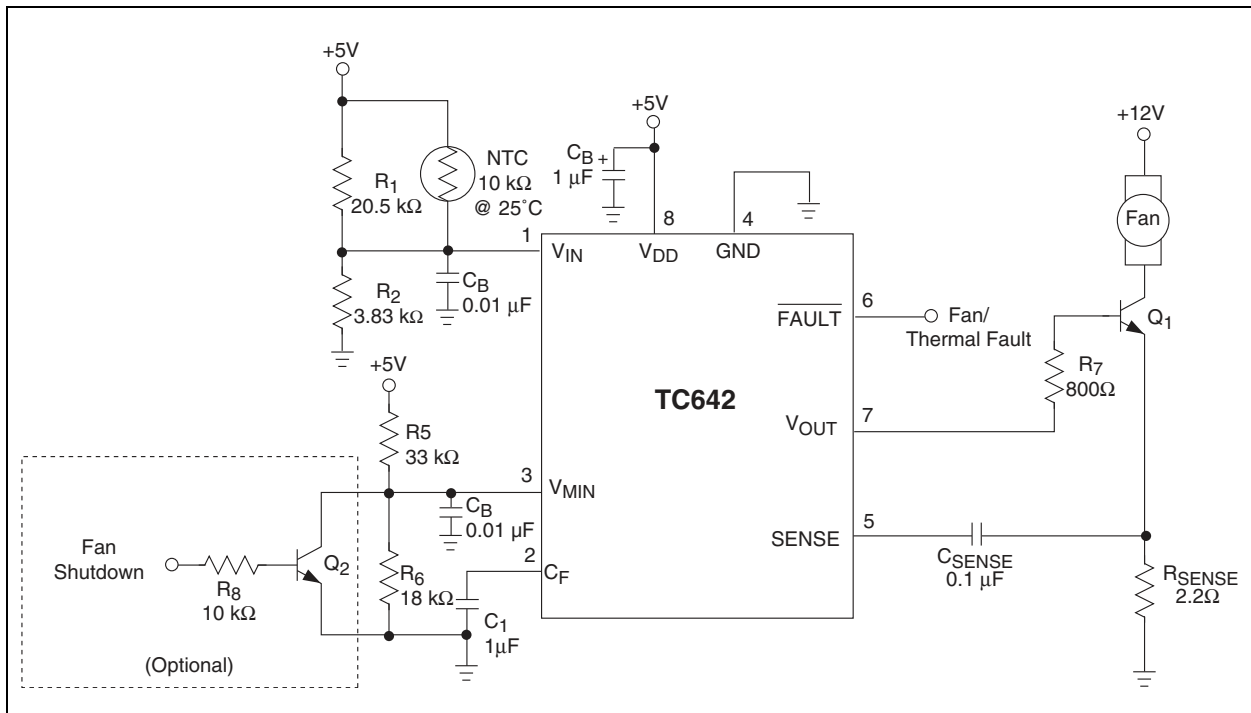

FIGURE 5-9: Design Example.
Step 1. Calculate R_1 and R_2 based on using an NTC having a resistance of 10 $\text{k}\Omega$ at T_{MIN} (25°C) and 4.65 $\text{k}\Omega$ at T_{MAX} (45°C) (see Figure 5-9).